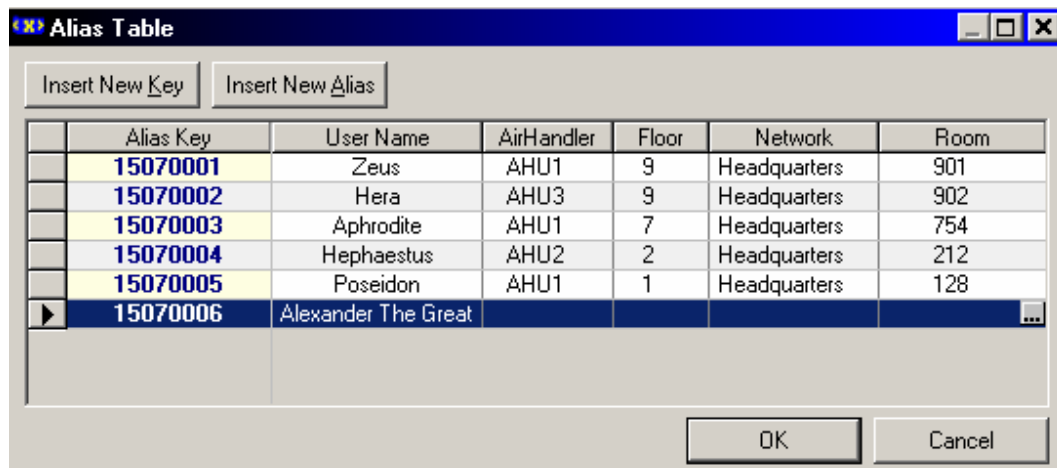

Figure 9.19. New Alias Key Added to Column
2. The new key appears under the **Alias Key** column, as shown in **Figure 9.19**. Type a number for the key (can be any number of digits) in the table row.